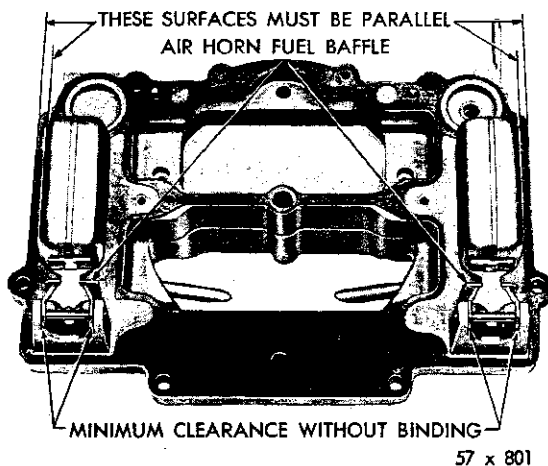

Fig. 72—Measuring the Float Alignment
(1) Sight down the side of each float shell to determine if the side of the float is parallel to the outer edge of the air horn casting, as shown in Figure 72.
(2) If the sides of the floats are not in alignment with the edge of the casting, bend the float lever by applying pressure on the end of the float shell with the fingers, while supporting the float lever with the thumb. To avoid damage to the float, apply only enough pressure to bend the float lever.
(3) After aligning the floats, remove as much clearance as possible between the arms of the float lever and the lugs on the air horn. To do this bend the float lever. The arms of the float lever should be parallel as possible to the inner surfaces of the lugs or the casting.